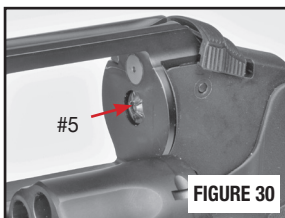

FIGURE 30
- With the thumbpiece still pressed forward, apply a drop of firearm lubricant to the recessed ratchet drive hub called out by arrow #5 (FIGURE 30). After applying a drop of oil, release the thumbpiece.